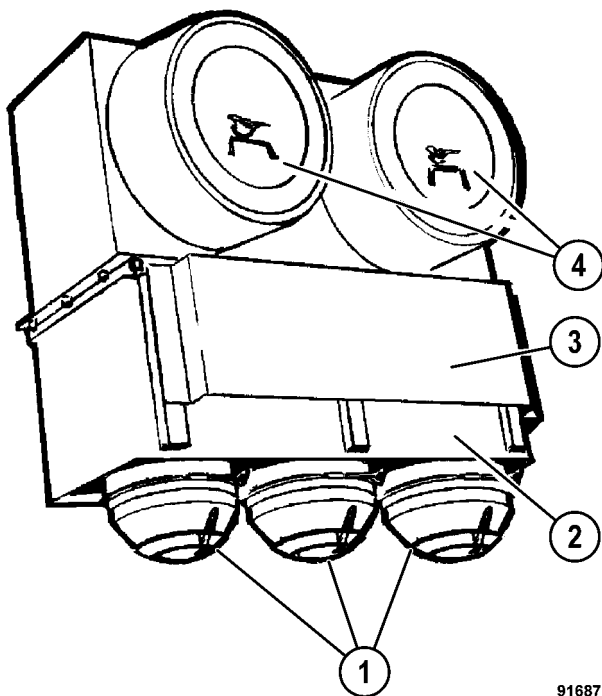
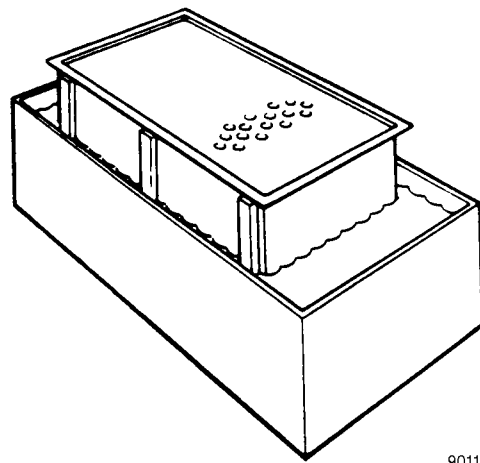

FIGURE 5-1. ENGINE AIR CLEANERS
FIGURE 5-6. WASHING AND SOAKING PRECLEANER SECTION
The engine demand for air creates a vacuum in the air cleaners and causes outside air to be drawn in through air inlets on the air cleaners. Dirty air entering here is drawn through a series of tubes that are designed to produce a cyclonic action. As the air passes through the outer portion of the tubes, a circular motion is set up causing dust and dirt particles to be thrown from the air stream into dust collectors (1, Figure 5-1). At the same time, the air stream turns and is directed up through the center of the tubes into the filter chamber. Here the air passes through the main filter element and safety filter element and out the clean air outlet to the engine's air intake system. The function of the safety filter is to increase overall reliability and engine protection.
1. Turn off the engine. Clean any dirt and dust from the area around air cleaner element cover (4, Figure 5-1).
The tubes in precleaner section (2, Figure 5-1) should be cleaned at least once per year and at each engine overhaul. More frequent cleaning may be necessary depending upon operating conditions and the local environment.
1. Remove air intake cover (3, Figure 5-1). Remove the mounting hardware that secures the precleaner section to the air cleaner assembly. Remove the precleaner section. The safety filter element must remain in place to protect the engine intake.
2. Loosen the clamps and remove dust collector (1) from the precleaner section. Wash the dust collector with a water and liquid soap solution.
3. Submerge the precleaner section in a solution of Donaldson D-1400 and warm water (see Figure 5-6). Mix the solution according to the directions on the package. The tube section must be down. Soak for 30 minutes, then remove the precleaner section from the solution. Rinse thoroughly with fresh water and blow dry.